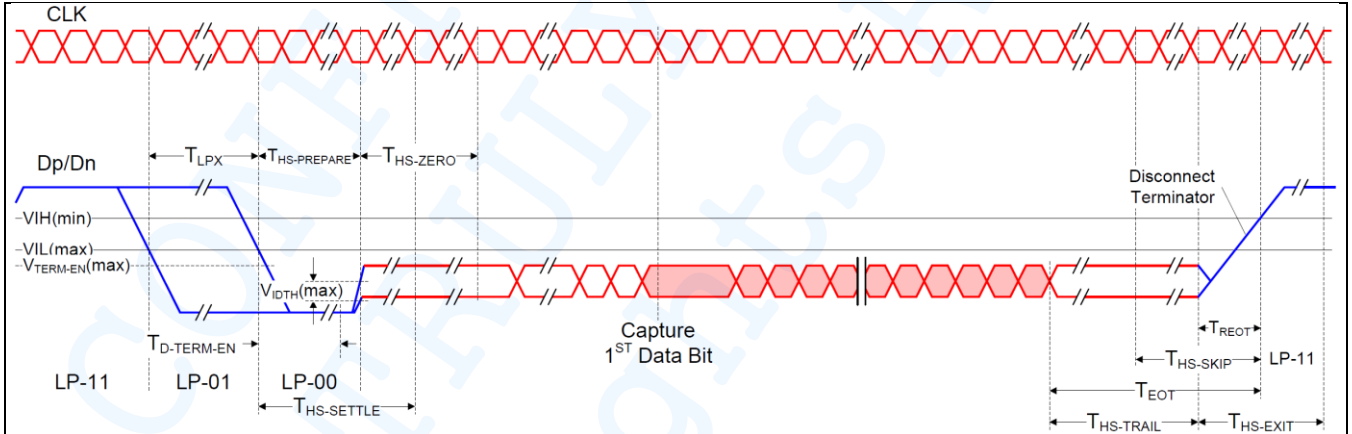

Figure 45 High-Speed Data Transmission in Bursts
The Figure 45 shows the sequence of events during the transmission of a Data Burst. Transmission can be started and ended independently for any Lane by the protocol. However, for most applications the Lanes will start synchronously but may end at different times due to an unequal amount of transmitted bytes per Lane.
The first byte of any packet is the DI (Data Identifier) byte. Figure 45 shows the composition of the Data Identifier (DI) byte.